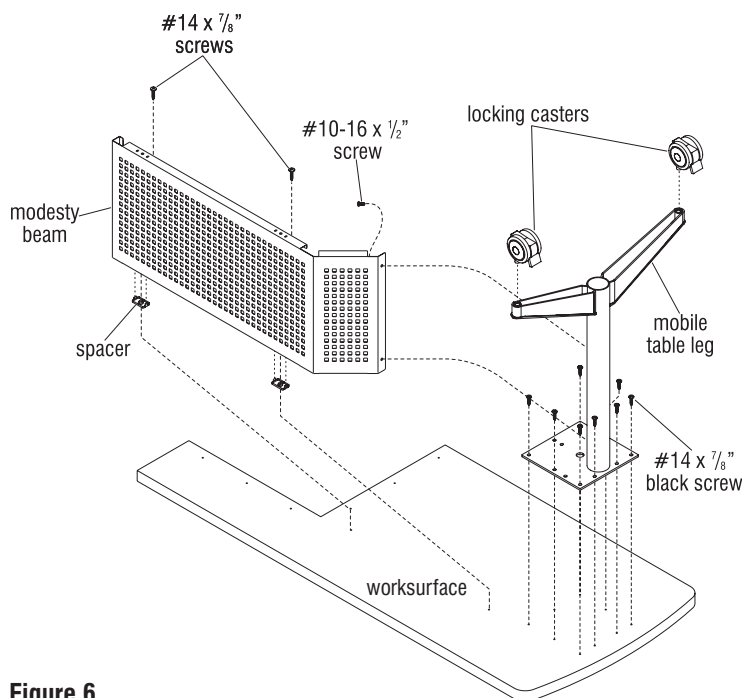

Figure 6
1. Gently lay the worksurface upside down on a soft, protective surface. Position the mobile table leg, as illustrated, over the pre-drilled holes in the worksurface and secure using eight #14 x $\frac{7}{8}$ " black screws. Thread the casters into the mobile table legs and tighten the jamb-nut of the caster to the leg with a wrench (Figure 6).
2. Orient the modesty beam over the worksurface as it will mount to the worksurface. Snap spacers into modesty beam holes so that the spacers are in between the modesty beam and worksurface. Place the modesty beam onto the worksurface over the pre-drilled holes making sure spacers are lined up. Secure the horizontal mounting flange to the underside of the worksurface with two #14 x $\frac{7}{8}$ " screws. Next, align the mounting holes in the vertical mounting flange of the modesty beam to the vertical tube of the table leg. Using a screw driver and #2 Phillips bit, secure modesty beam to table leg using two #10-16 x $\frac{1}{2}$ " screws (Figure 6).